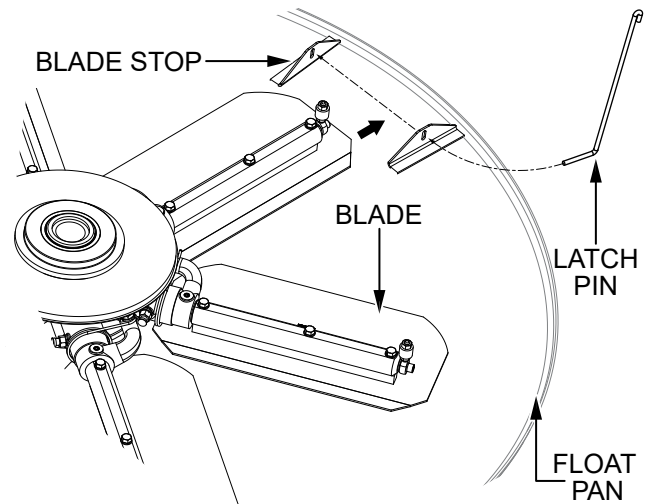

Figure 91. Float Pan Installation (Latch Pins)
2. Lift the trowel just enough to slide a float pan under the blades. Lower the finisher onto the pan with the blades between the blade stops (Figure 91).
3. Route a latch pin through the holes in the blade stops as shown in Figure 91.